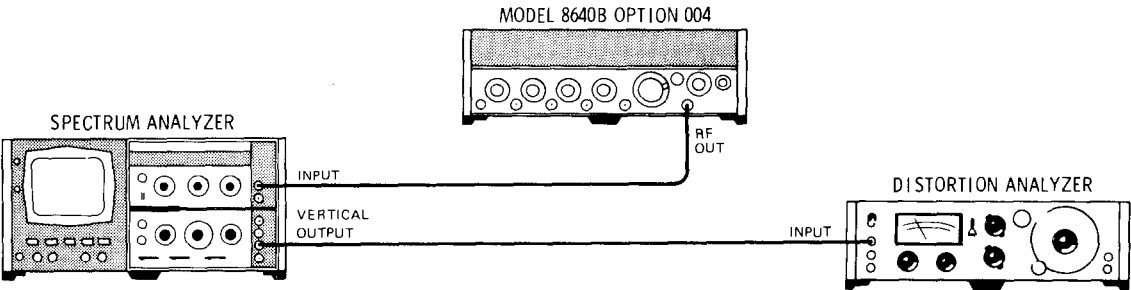

Figure 4-19. AM Distortion Test Setup
1. Connect equipment as shown in Figure 4-19 after setting Signal Generator's controls as follows: